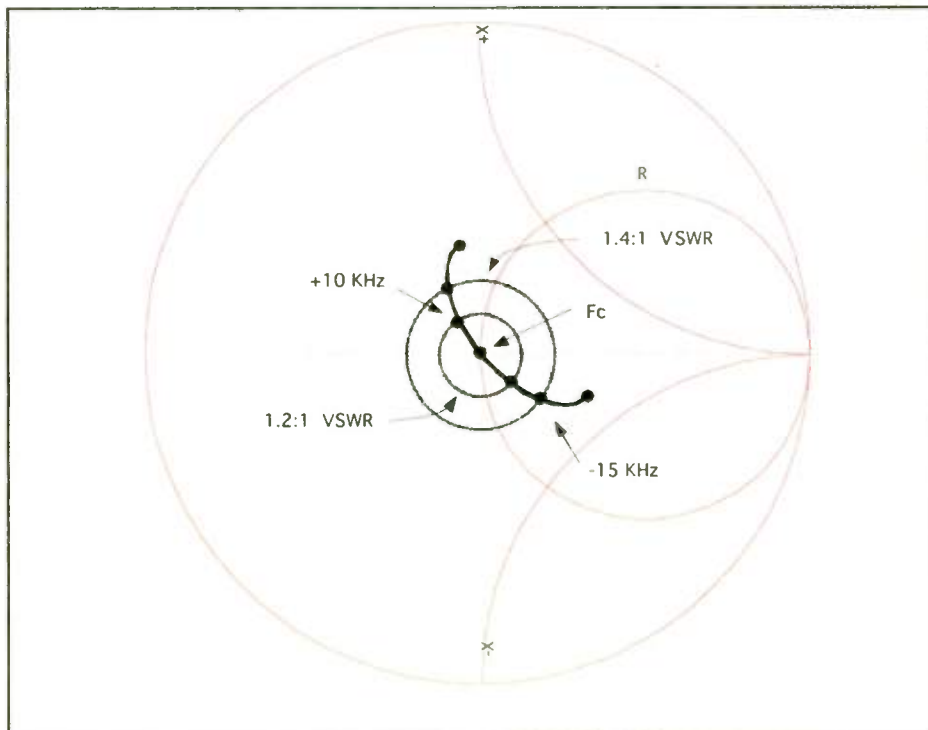

Fig. 20 Symmetry Requirements for IBOC
b. ± 10 kHz — the VSWR of the load impedance presented to the final RF amplifier within the transmitter should not exceed 1.20:1 when normalized to the carrier frequency impedance (Fig. 20).
c. ± 15 kHz — the VSWR of the load impedance presented to the final RF amplifier within the transmitter should not exceed 1.40:1 when normalized to the carrier frequency impedance (Fig. 20).